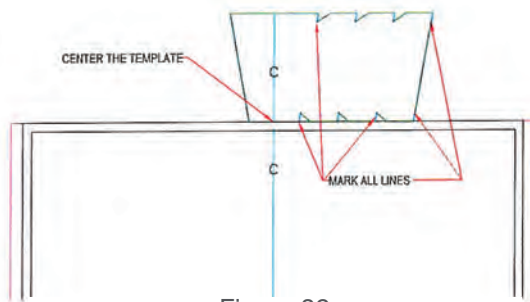
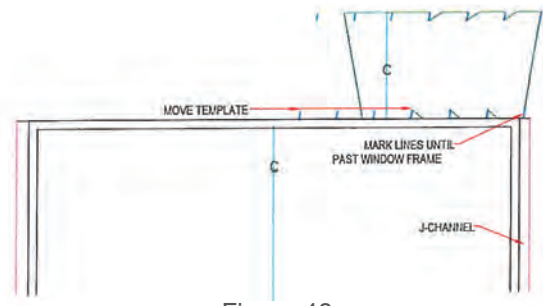

Figure 39
Figure 40
- If using the Tru-Brix Arch Template, set the center-of-keystone mark on the template at the center of the window casing. Mark the locations of the arch rails using the notches in the template. See Figure 39. Move the template as necessary to reach the window jamb. See Figure 40. If the last position indicated by the template is inside the casing of the window jamb, adjust the marks you have made by spreading them apart until the last mark meets the jamb. See Figure 41. Remember, you must not separate the rails by more than 1/8".